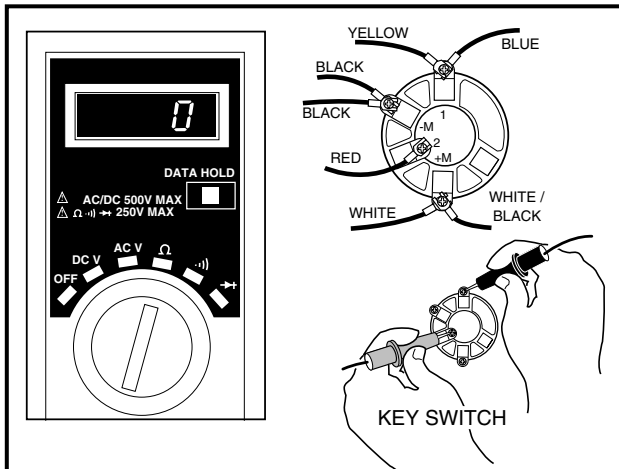

FIGURE 12-19
5. Place the red (+) probe of the multimeter on the No. 2 terminal of the key switch and place the black (-) probe on the No. 1 terminal. Insert the key and turn the switch to ON. The reading should be continuity. With the key switch turned OFF, the reading should be no continuity. If the readings are incorrect, replace the key switch (**Figure 12-19, Page 96**).